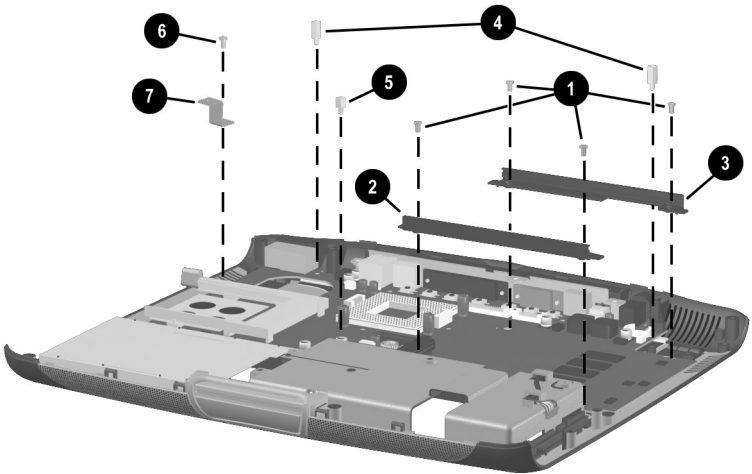

Figure 5-47. Removing the System Board Fasteners
3. Remove the following components (Figure 5-47):
- a. Four silver TM2.0 × 5.0 screws ❶ that secure the optical drive front and rear alignment rails
- b. Optical drive front ❷ and rear ❸ alignment rails
- c. Two silver HM5.0 × 17.5 standoffs ❹
- d. One silver HM5.0 × 9.0 standoff ❺
- e. One silver TM2.0 × 5.0 screw ❻ with bracket ❼